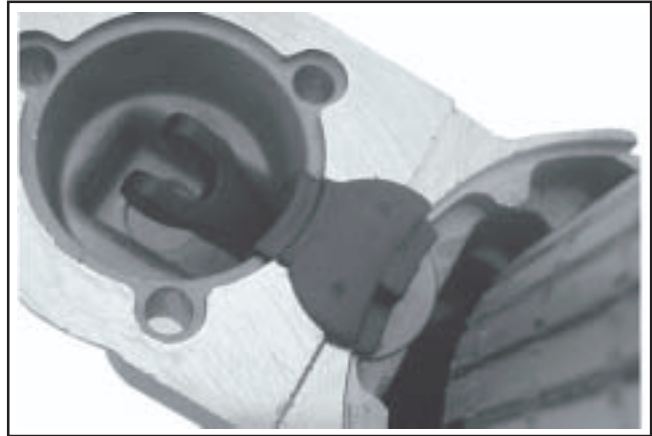

Figure 8-30. Installing Back-up Washer and Grommet.
7. Install the backup washer followed by the rubber grommet, into the matching recess of the drive end cap. The molded recesses in the grommet should be "out", matching and aligned with those in the end cap. See Figure 8-30.